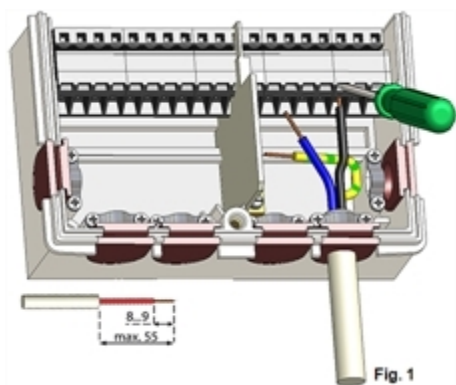

Fig. 1
2. Strip lines a max. of 55 mm, assemble the strain reliefs, strip wire ends 8-9 mm (Figure 1)